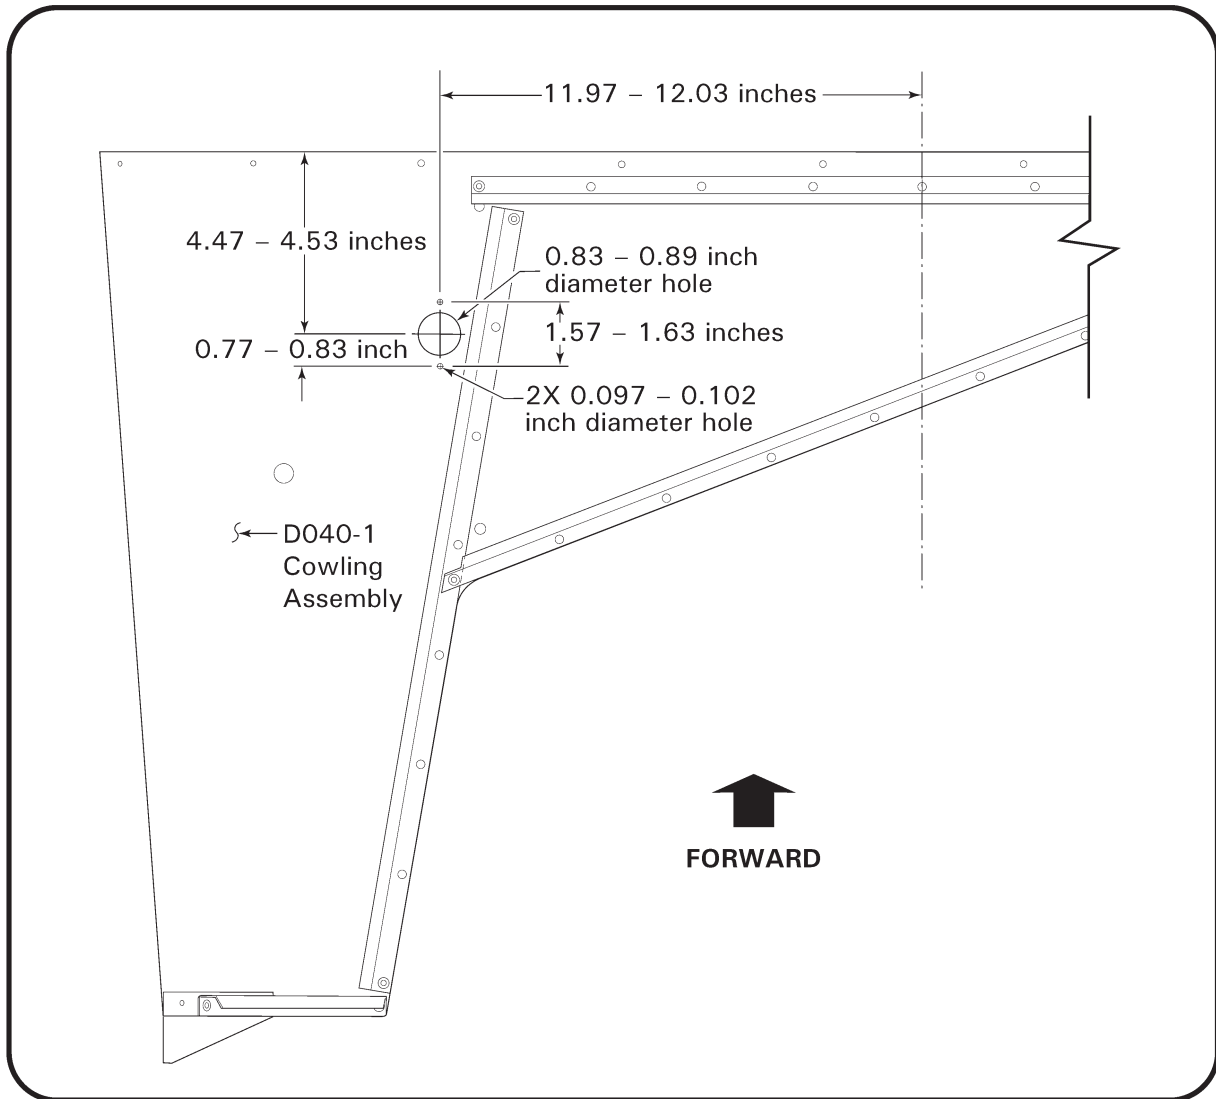

FIGURE 4 Lithium-Ion vent hole drill location
19. Refer to Figure 4. Lay out location for 0.86 inch diameter hole and (2) 0.097-0.102 inch diameter holes on D041-1 cowling assembly as shown.